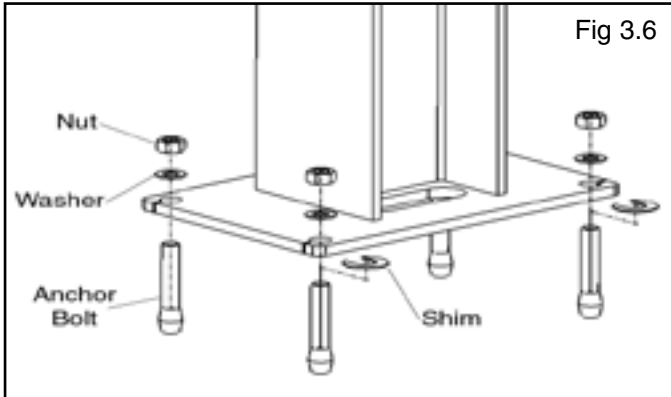

Fig 3.6
7. If shimming is required, insert the shims as necessary around each anchor bolt. (See Fig. 3.6)